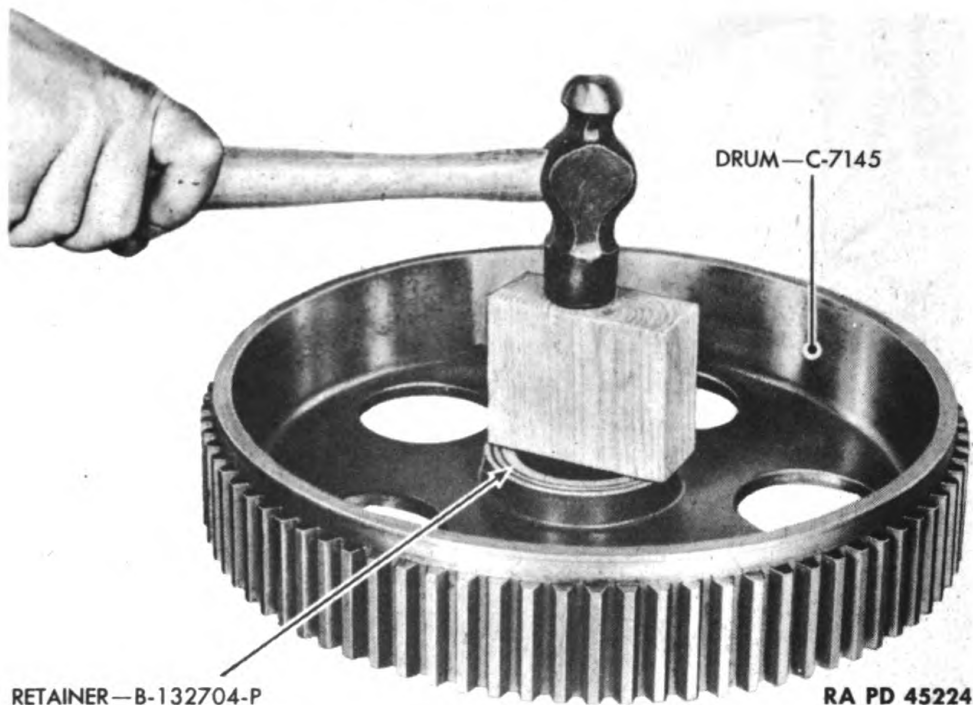

Figure 186—Installing Retainer in Elevating Brake Drum
c. Replace Damaged Oil Retainers. There are two oil retainers, one in brake drum C7145, and one in the elevating handwheel gear housing cover D5821. If damaged, drive the retainer out with a brass drift and hammer. Clean retainer seat in cover and drum, then drive the new retainer in place, using a wood block and hammer (fig. 186). The retainer must be installed in the drum and cover with the leather edge toward the bearing in the front of the cover.